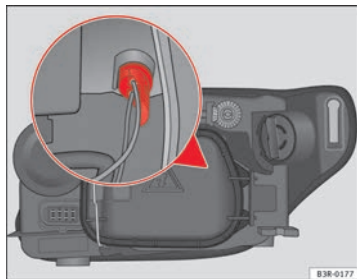

Fig. 211 Side light
- Remove the bulb holder by pulling on the grip ⇒ fig. 211 (it can also be removed by pulling on the bulb holder wires).